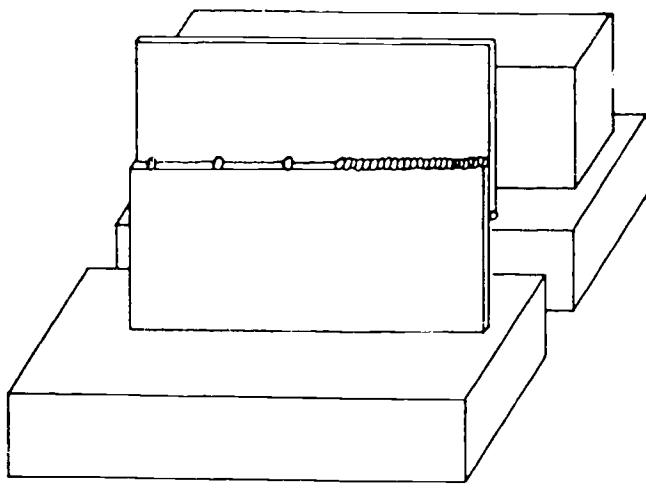

Figure 2-6. Horizontal lap joint.
**Horizontal Position.** When you weld joints with the joint edges horizontal, as illustrated in figure 2-6, the tip should be held at an angle of 45° to the plate surface and inclined slightly in the vertical plane to direct the flame upward. The slight inclination of the tip keeps the molten metal from sagging to the lower edge of the weld. Move the tip slightly from side to side to deposit the metal uniformly along the joint. Add the filler rod to the upper edge of the molten pool to permit an even distribution of weld metal.